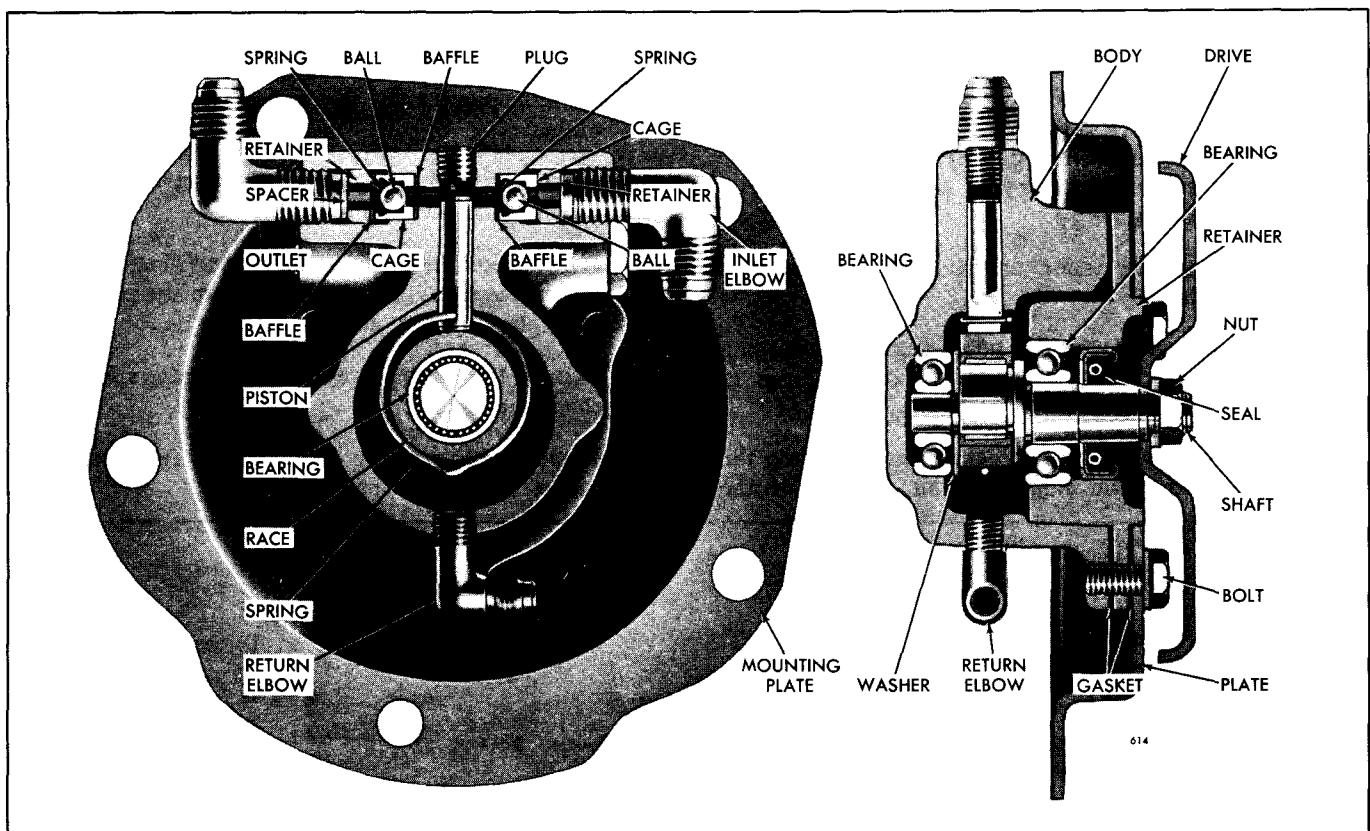
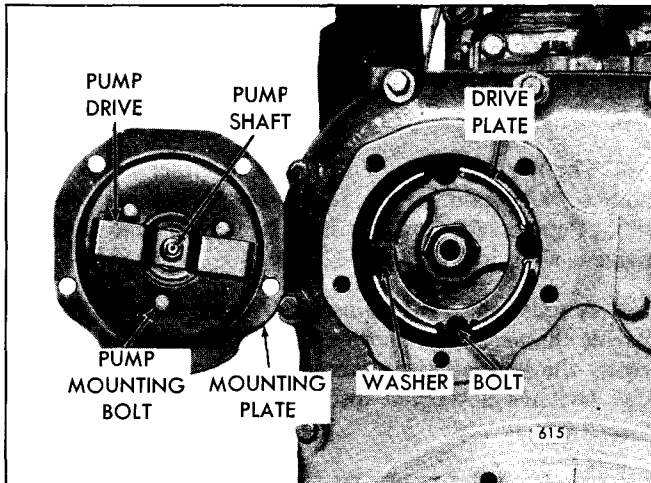

Fig. 10 – Direct Engine-Driven Hydrostarter Charging Pump
Fig. 11 - Pump Drive Plate Mounting
The direct engine-driven charging pump (Fig. 10) is a single –piston positive displacement type. The ball check valves and the unloading valve are automatically controlled by the accumulator pressure. The pump shaft is supported on ball bearings and a seal, pressed into the pump bearing retainer, prevents leakage. The pump is attached to the flywheel housing and is driven by a drive plate bolted to the camshaft gear (Fig. 11).
4. Remove the five bolts and lock washers securing the charging pump and mounting plate assembly to the flywheel housing (Fig. 11). Then remove the pump and mounting plate assembly. Remove the mounting plate gasket.
- With the pump removed from the engine, refer to (Figs. 10 and 12) and proceed as follows:
After cleaning, inspecting and replacing the necessary parts, refer to (Figs. 10 and 12) and proceed as follows:
- c. Place the seal installer J 7191-1 over the seal lip protector J 7191-3, covering the threaded end of the shaft. Then press the seal in flush with the retainer surface. Refer to (Figs. 10 and 15).